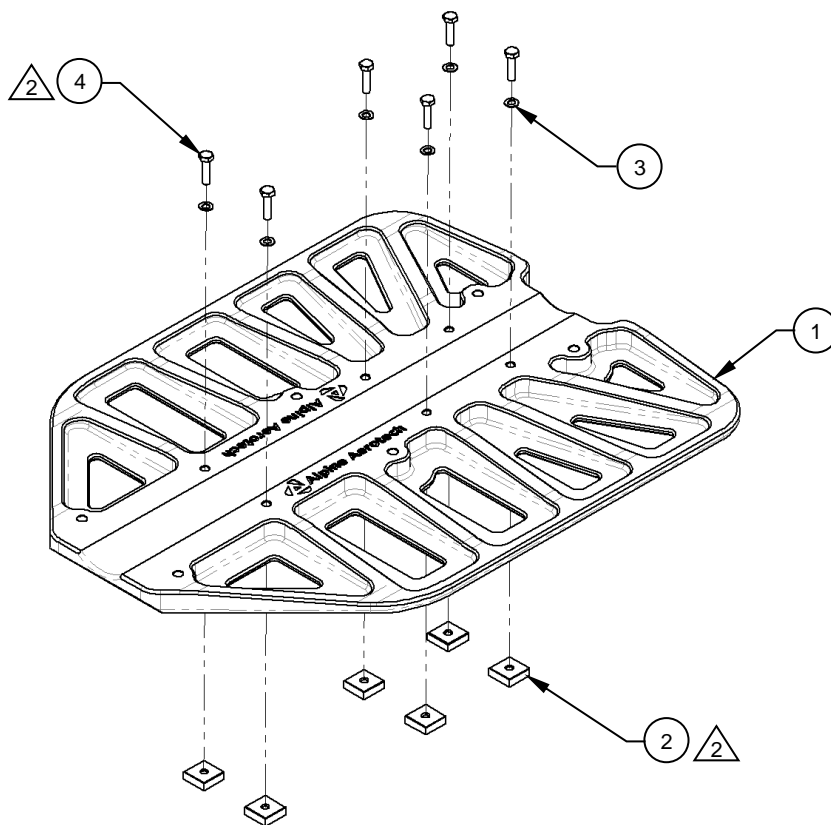

Figure 1
1. Install the Grippers (Item 2) and supplied hardware on the Bear Paw, Detail (Item 1) as shown. Ensure all serrated surfaces on the Grippers are facing down (serrations must be common to the ground). Ensure Thread-locker (Item 18) is applied (mandatory). Torque all Gripper fasteners IAW General Note 2. Reference Figure 1.